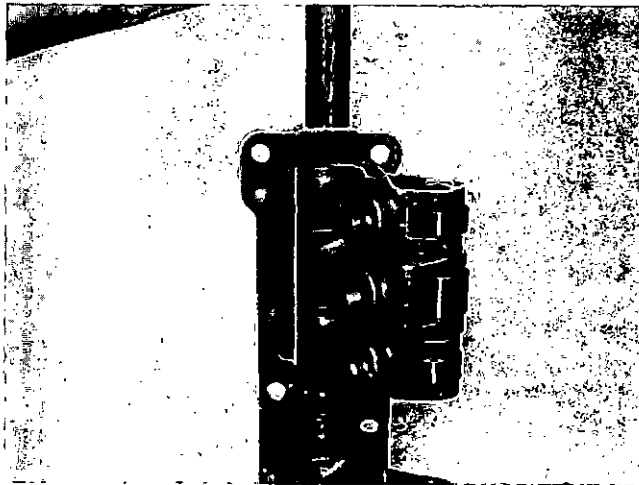

Fig. 4-16 (N10409). Install The Cup Plugs
4. Apply a light coat of sealant to the hole in each end of the housing. Use the ST-1053 Expansion Plug Driver to install the cup plug. Install the plug so it is at least even with the edge of the hole or not more than 0.010 inch [0.25 mm] below the edge of the hole, Fig. 4-16.